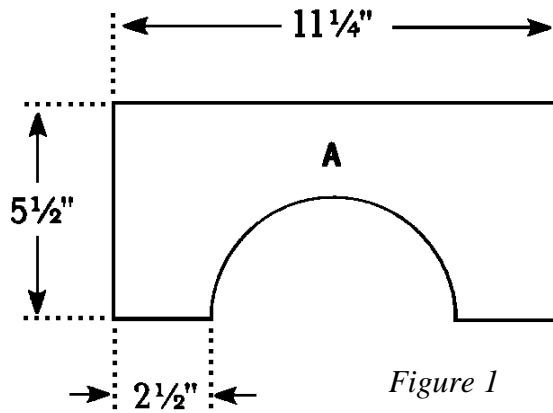

Figure 1
1. Cut two Lower Sides (A) from 1 x 6 pine, each measuring 11-1/4 inches.
2. Referring to *Figure 1* mark and cut out a semi-circle on one 11-1/4-inch long edge of each of the two Lower Sides (A). Our semicircle has a 6-1/2" radius, but cut to any radius you choose.